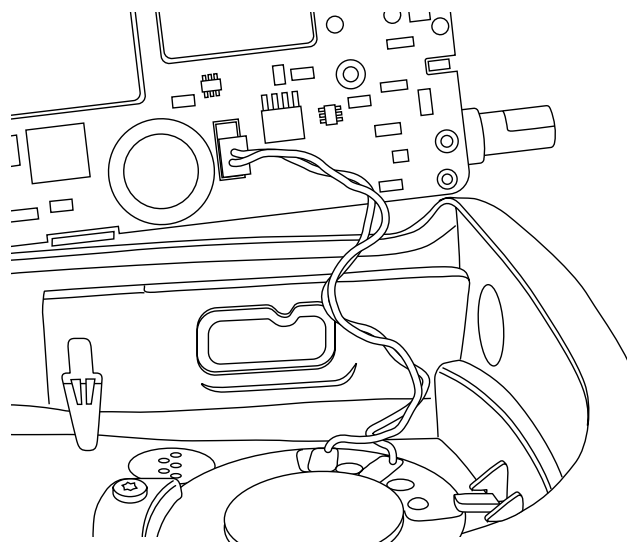

Figure 2-12 Connect Speaker Wire Assembly
- c. Connect the speaker wire assembly into the 2-pin connector on the main board and bend the wires at the board connector so the wires are positioned toward the top of the radio (Figure 2-12).